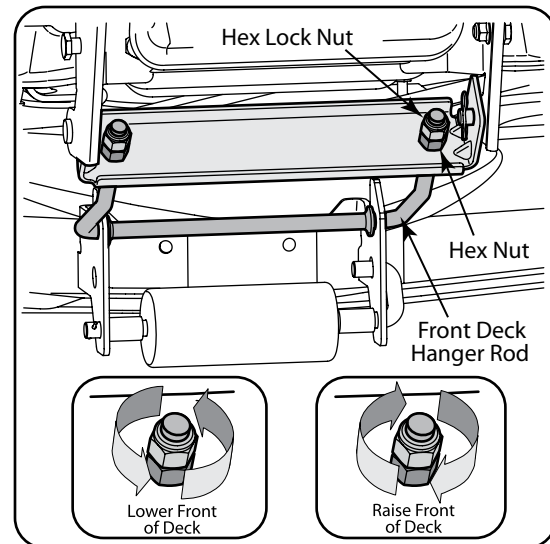

Figure 6-7
- Working at the front of the tractor, loosen the two hex lock nuts at the front of the deck hanger rod. Thread the lock nuts away from the hex nuts behind them. Refer to Figure 6-7.
- Use a open end wrench to turn the inner hex nuts to adjust the front of the deck. Turn the hex nuts clockwise to raise the front of the deck, or counterclockwise to lower the front of the deck. Adjust the hex nuts evenly so that the deck hanger rod is at the front of both slots in the hanger bracket on the front of the deck. See Figure 6-7.